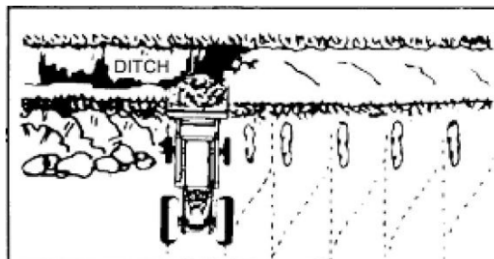

Fig 4.23 Leave drifts or final cleanup
- Leave dirt which drifts over the side of the bucket for final clean-up shown in figure 4.23.